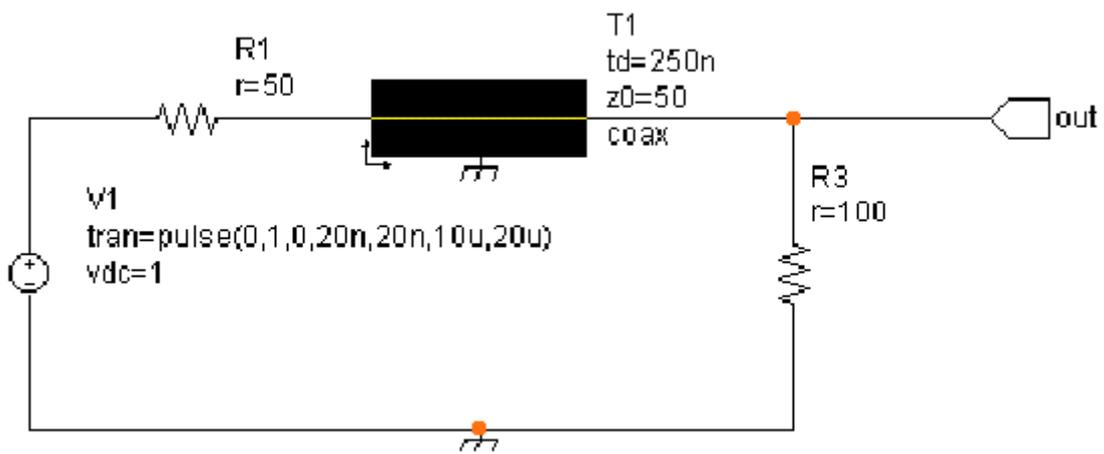

Figure 5 Transmission line with mismatching resistive load.
Using TRAVIS software, design the electrical circuits presented in figures 5, 6 and 7. The transmission line is of the coaxial type, the characteristic impedance $Z_0=50\Omega$, and the delay time $t_d=250\text{ns}$. The load is:
- a) mismatching resistance (fig. 5)